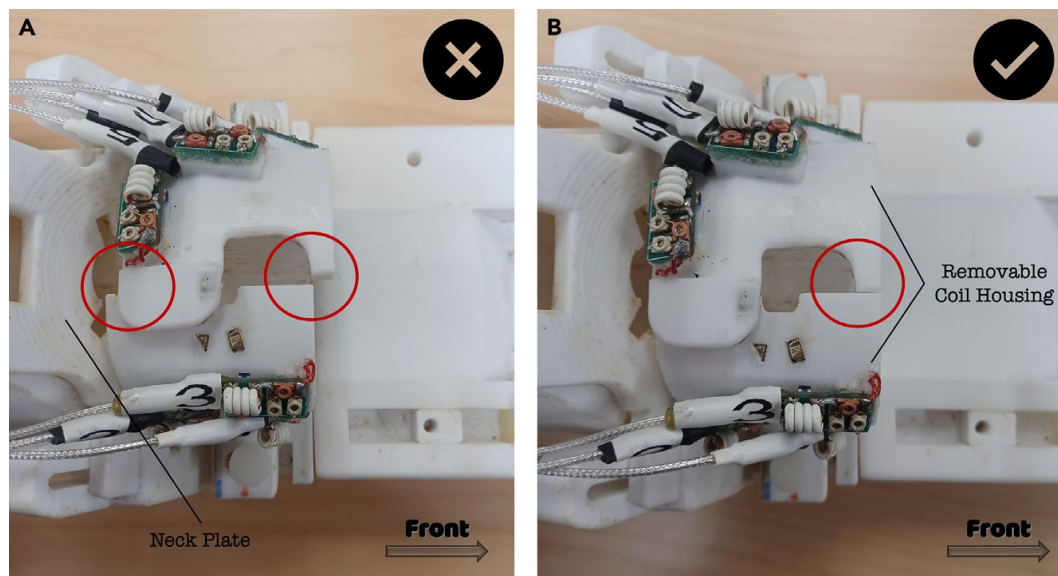

Figure 5. Detailed view of the removable coil housing positioning
- Ensure front edges are aligned to avoid signal loss (**Figure 5**).